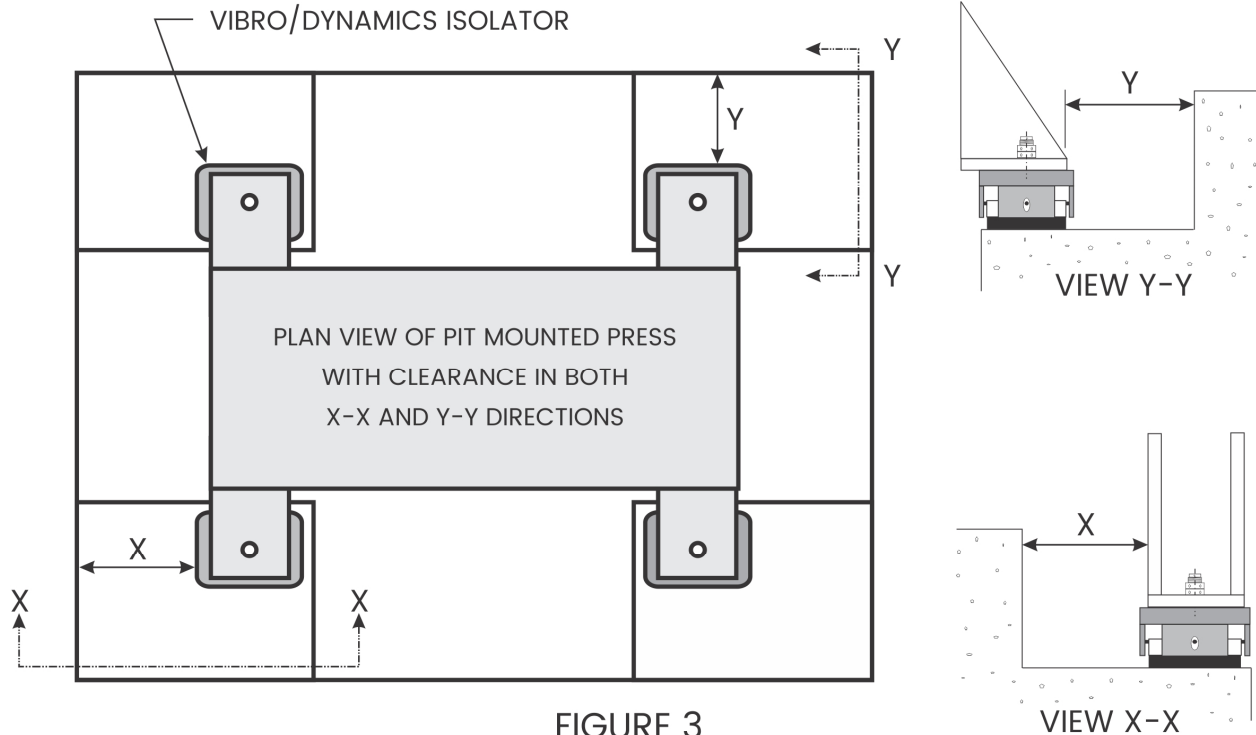

FIGURE 3
- 4) Clearance should be provided in either the X or Y direction to allow for the installation and removal of the isolators. See Figure 3 and Table 1.